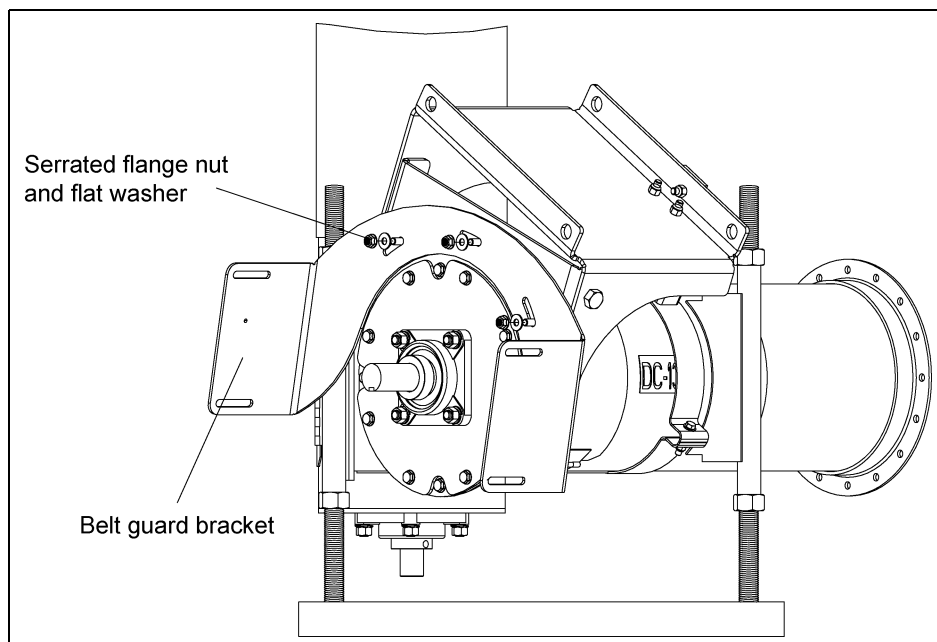

Figure 4O
- Loosely bolt the brackets to the head plate using three (3) 3/8" serrated flange nuts and flat washers. (See Figure 4O.)